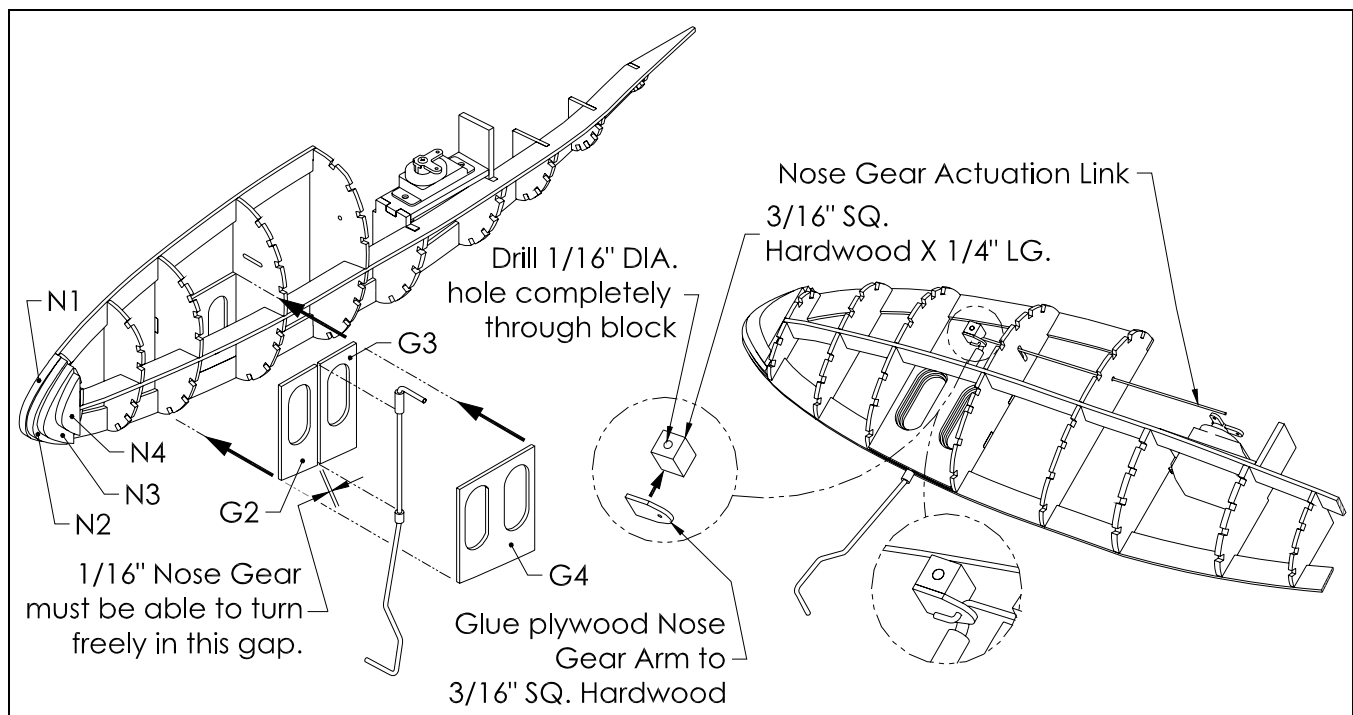

Figure 12
- ❑ Drill a 1/16" DIA. hole through the center of the **3/16" SQ. X 1/4" LG. Hardwood block** and glue the **plywood nose gear arm** to it as shown in Figure 12.
- ❑ Slide the **Hardwood block/plywood nose gear Arm** assembly onto the "Z" Bend of the **Nose Gear Actuation Link** as shown in Figure 12. Next, slide the **Hardwood block/plywood Nose Gear Arm** assembly onto the nose gear assembly so that it lines up flush with the end of the 1/16" wire. This is illustrated in Figure 12 and should be glued with 5-minute epoxy to ensure a strong bond. Once the stringers are installed it will be difficult to gain access to this area of the fuselage again.